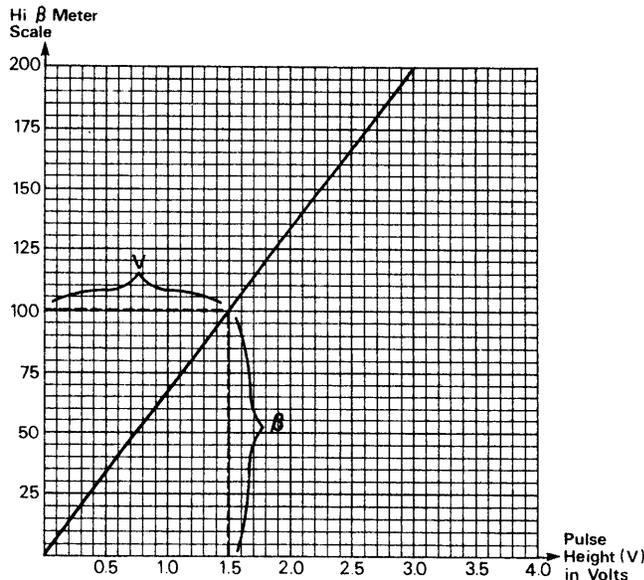

Fig. 11. Hi β calibration chart.
6. Using graph in Fig. 11, find the pulse height (V) (recorded in step 5), on the horizontal axis. Extend a vertical line from that point. The intersection of that line with the diagonal line when projected on the vertical axis should be the required "HI β " scale reading. Record this value "HI β CAL." If another value is on the "HI β " scale, unplug the Model 530 and remove the bottom panel to expose the printed circuit board. (Do not remove or upset test transistor connections and Model 530 control settings).
7. Plug the Model 530 into the power source. Turn TRANSISTOR BETA/FET g_m switch (9) to the